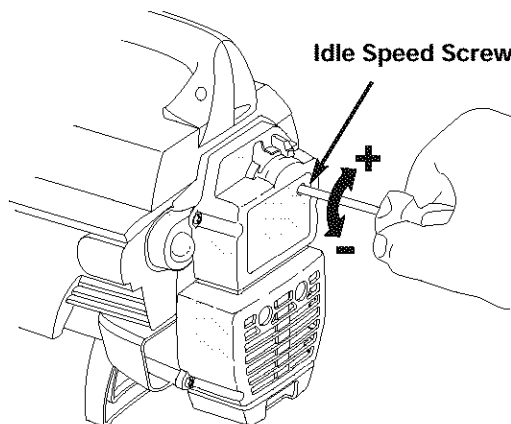

Fig. 29
The idle speed of the engine is adjustable through the air filter/muffler cover (Fig. 29).
3. Move the throttle control and let the engine idle. If the engine stops, insert a small phillips or flat blade screwdriver into the hole in the air filter/muffler cover (Fig. 29). Turn the idle speed adjuster in, clockwise, 1/8 of a turn at a time (as needed) until the engine idles smoothly.